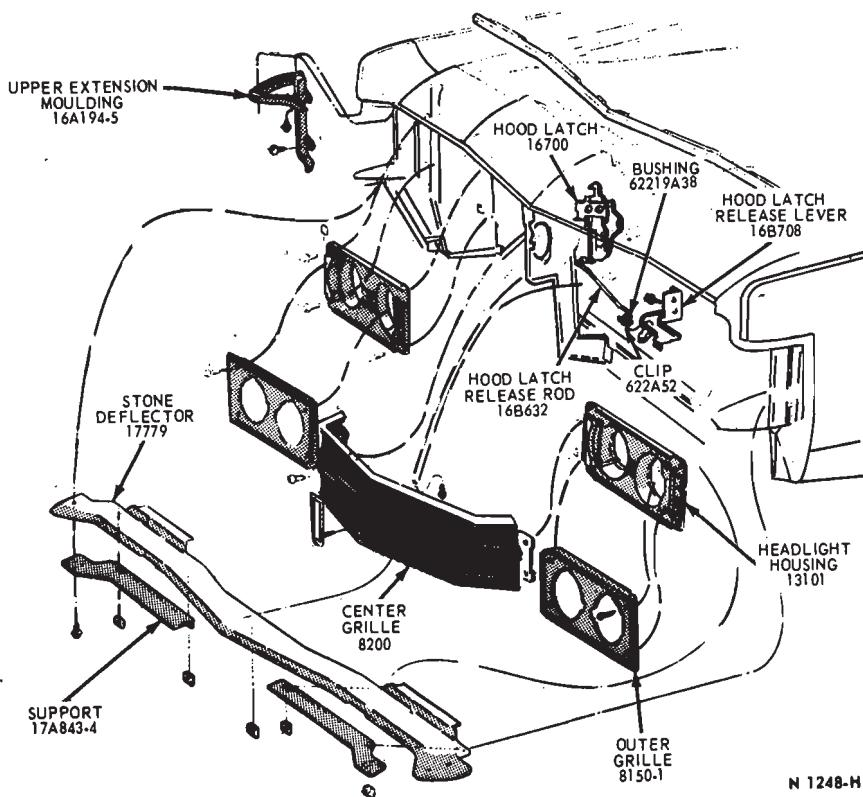

FIG. 3—Radiator Grille—Mercury (High Series) and Meteor
2. Remove the screws from each end of the center grille (Fig. 3).